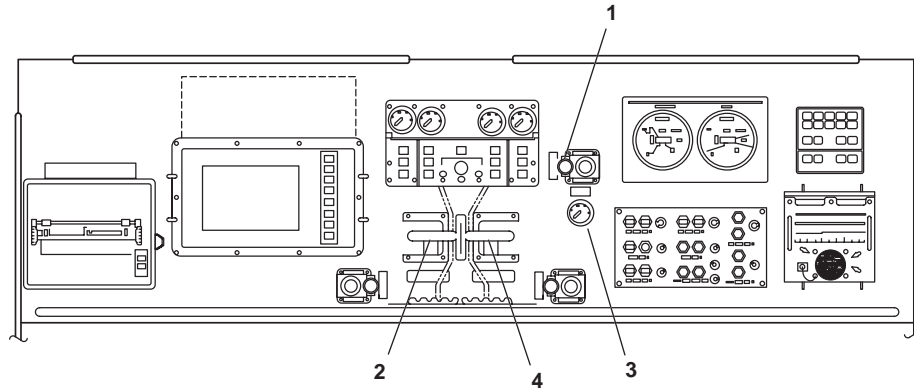

Figure 9. EOS Console
15. On the EOS console, place the COMMAND TRANSFER control (figure 9, item 1) in the EOS position.
16. On the EOS console, place the STBD MN ENG THROTTLE/CLUTCH lever (figure 9, item 2) in the NEUTRAL (straight UP) position.
18. On the EOS console, verify that the CONTROL AIR PRESSURE gauge (figure 9, item 3) indicates approximately 125 PSI (8.6 bar).